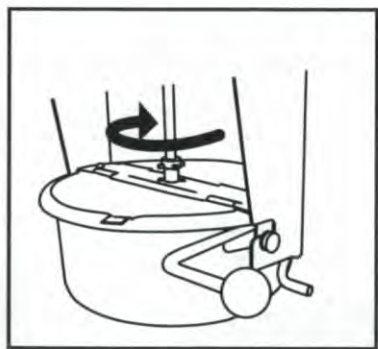

Fig.3
8. Switch the Stirrer to ON (II). **Please Note:** 4oz and Popcorn Anytime machines can skip this step. (Fig. 3)